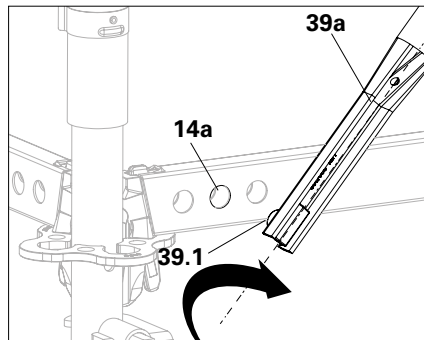

Fig. A5.02a
1. Bring the Ledger Brace UBL-2 (**39**) parallel to the basic scaffold and turn it so that the mounting finger (**39.1**) points upwards. (Fig. A5.02a)